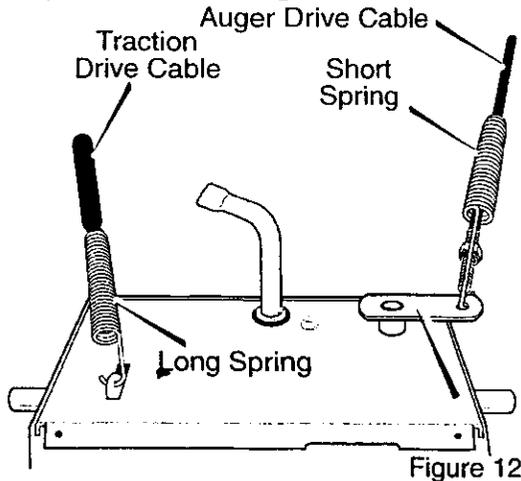

Figure 12
1. Check the **traction drive cable** and the **auger drive cable**. If the bottom of the cables have become disconnected, reinstall the cable springs. Make sure the **long spring** is attached to the traction drive and the **short spring** is attached to the auger drive. See Figure 12.